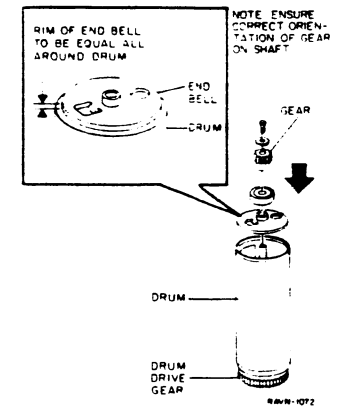

Figure 3. Preparing to Replace Drum
1. ASSEMBLE END BELLS ONTO DRUM (FIGURE 3).